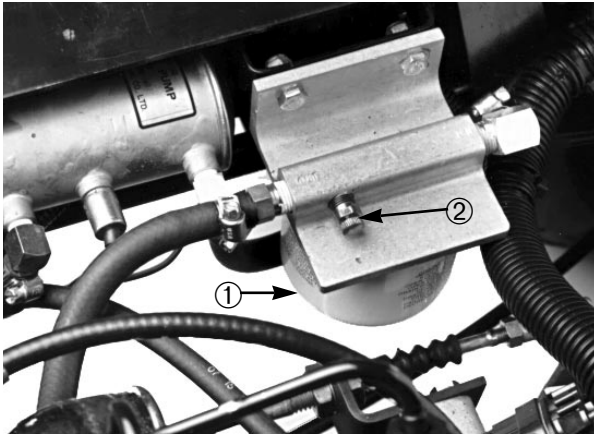

Figure 12
1. Loosen the air bleed screw on top of the fuel filter/water separator (Fig. 12).